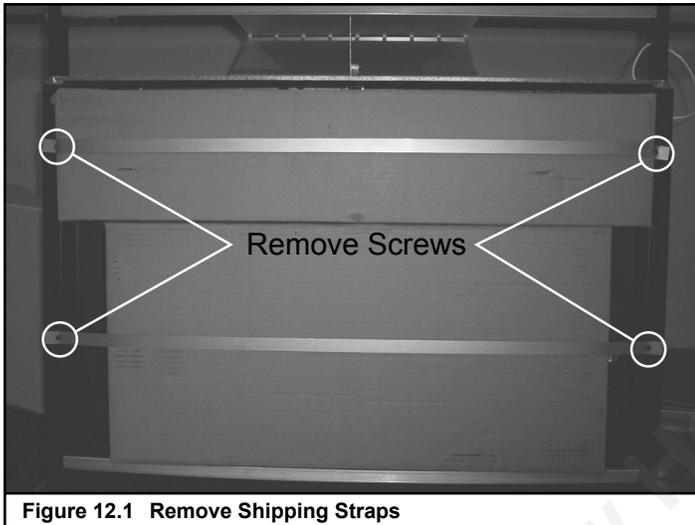

Figure 12.1 Remove Shipping Straps
- Remove bottom strap in the same manner and discard. Set bottom carton aside. See Figure 12.1.